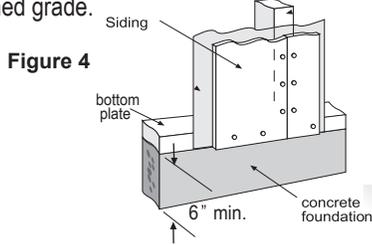

Figure 4
- Install James Hardie® products with a minimum 6" clearance to the finished grade on the exterior of the building or in accordance with local building codes if greater than 6" is required (fig. 4).